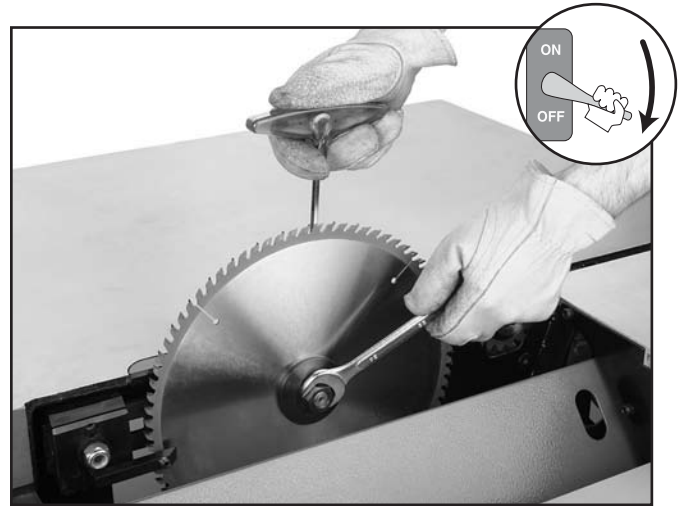

Figure 30. Installing the main blade.
5. Slide the blade onto the arbor with the teeth facing the front of the saw (see **Figure 30**).
6. Re-install the arbor flange and the arbor nut and tighten them against the blade as shown in **Figure 30**.